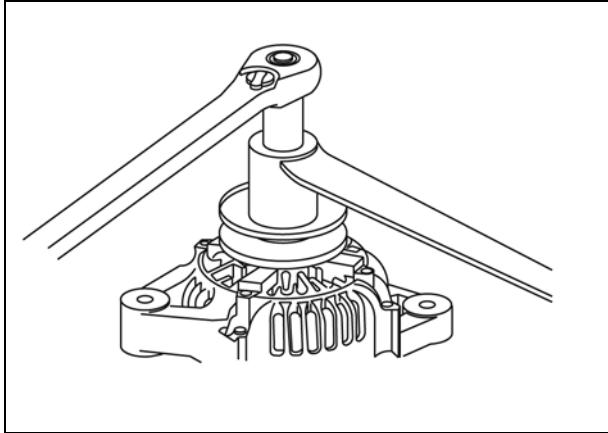

Figure 20
3. Remove nut and insulator at "B" terminal (A, Figure 20). Remove three screws and brush cover (B).